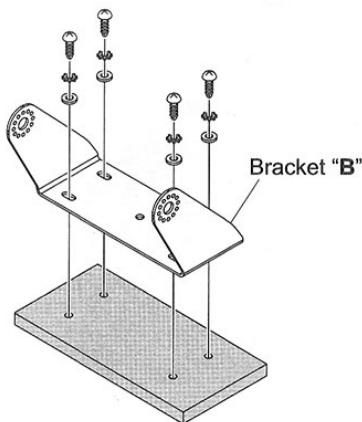

FIGURE 1
2. Secure the Bracket "**B**" with your selected four screws and washers (Figure 1).